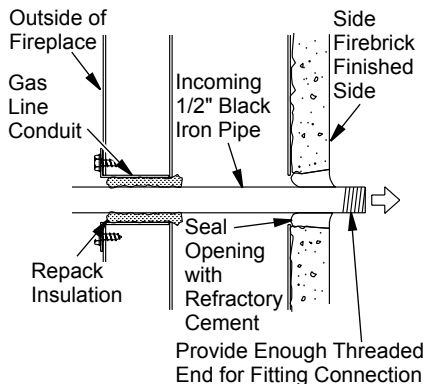

Figure 19 - Gas Line Installation
- Run a 1/2" black iron gas line into fireplace through rear at gas line conduit sleeve (if using a raised platform, add height). Provide sufficient gas line into fireplace chamber for fitting connection (see Figure 19).